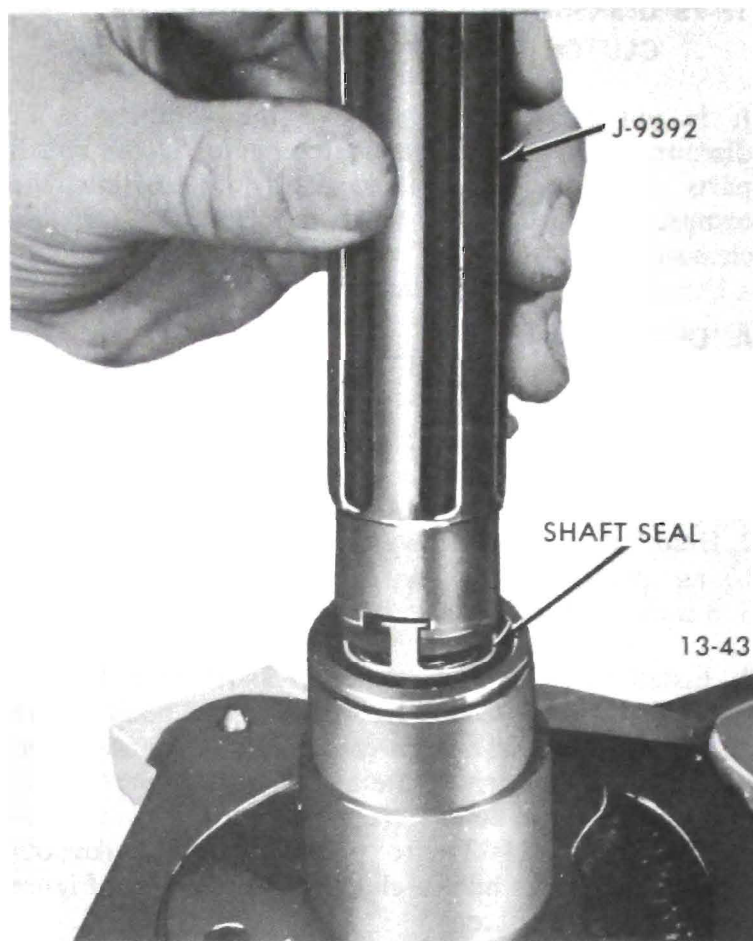

Figure 13-28 Removing or Installing Shaft Seal
8. Remove the seal assembly, using Tool J-9392. Press tool downward on seal while twisting it clockwise to engage the tabs of the seal assembly. Gently but firmly, pull tool straight out (see Figure 13-28).